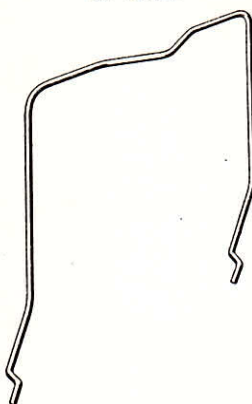

Fig. 2
3.02 The slip cover is supported in the raised position and its accidental removal is prevented through the use of a phosphor-bronze spring catch which is secured to the terminal proper at two of the wire entrance holes. The spring catch is furnished with each slip cover, one size serving for all three sizes of covers. See Fig. 2.